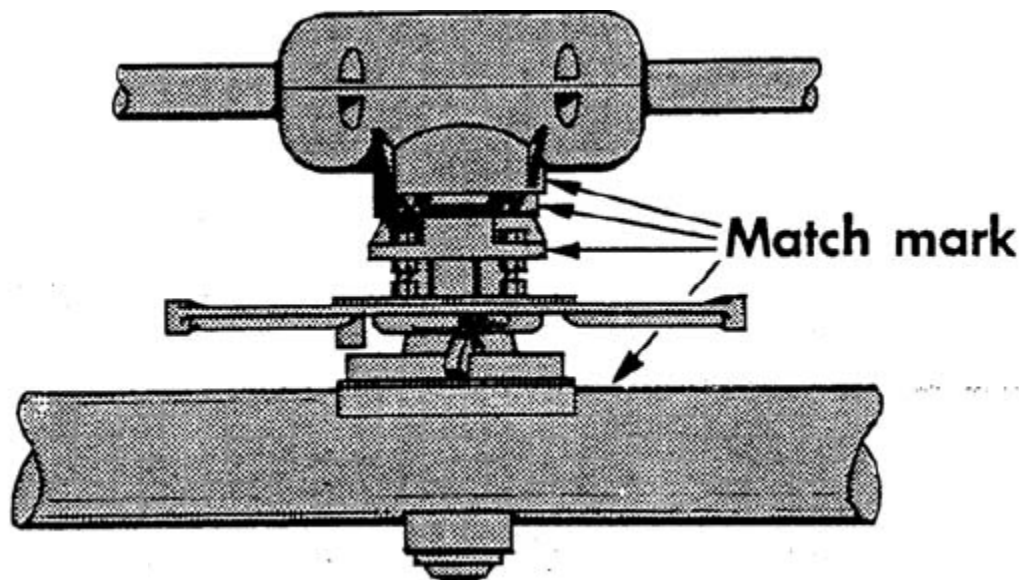

Figure 2: Match Mark Locations
2. Using any convenient means, match mark the lower parts of the hinge assembly with the switch arm and the rotating hub to ensure correct re-assembly as shown in Figure 2. Also match mark one blade tip with its jaw.